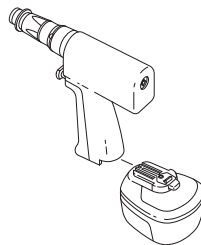

Figure 2 Battery Pack Installation
1. Slide a fully charged battery pack firmly into the handpiece until the battery latch snaps, indicating the pack is secure (see figure 2).
2. Test the operation of the handpiece by setting the trigger switch to the *FORWARD* (F) or *REVERSE* (R) position and squeezing the trigger.